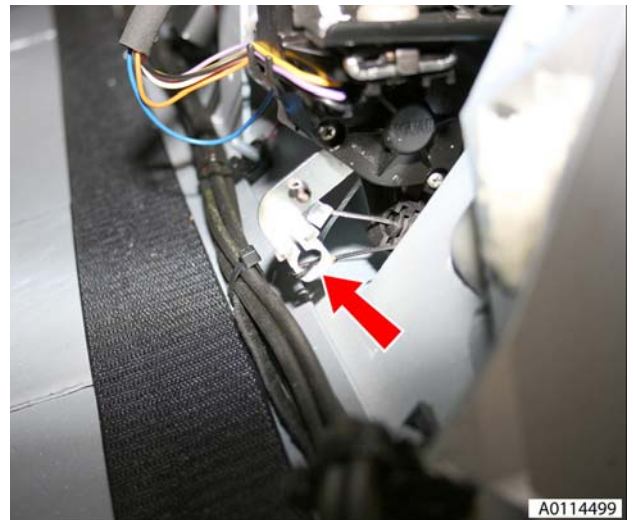

Figure 1
3. Unclip emergency pull string from tonneau latch (see Figure 1).